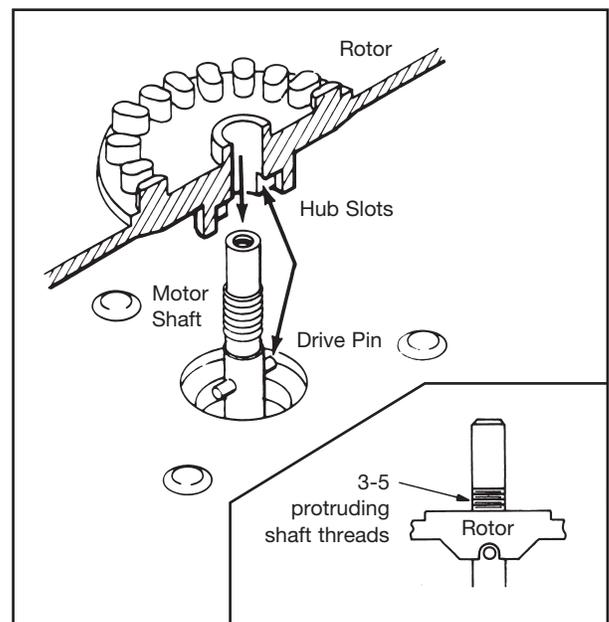

Figure 3-4. Installing Rotor Assembly.
- a) Position the rotor so that the slots on the underside of the rotor hub are aligned with the drive pin in the motor shaft (Figure 3-4).